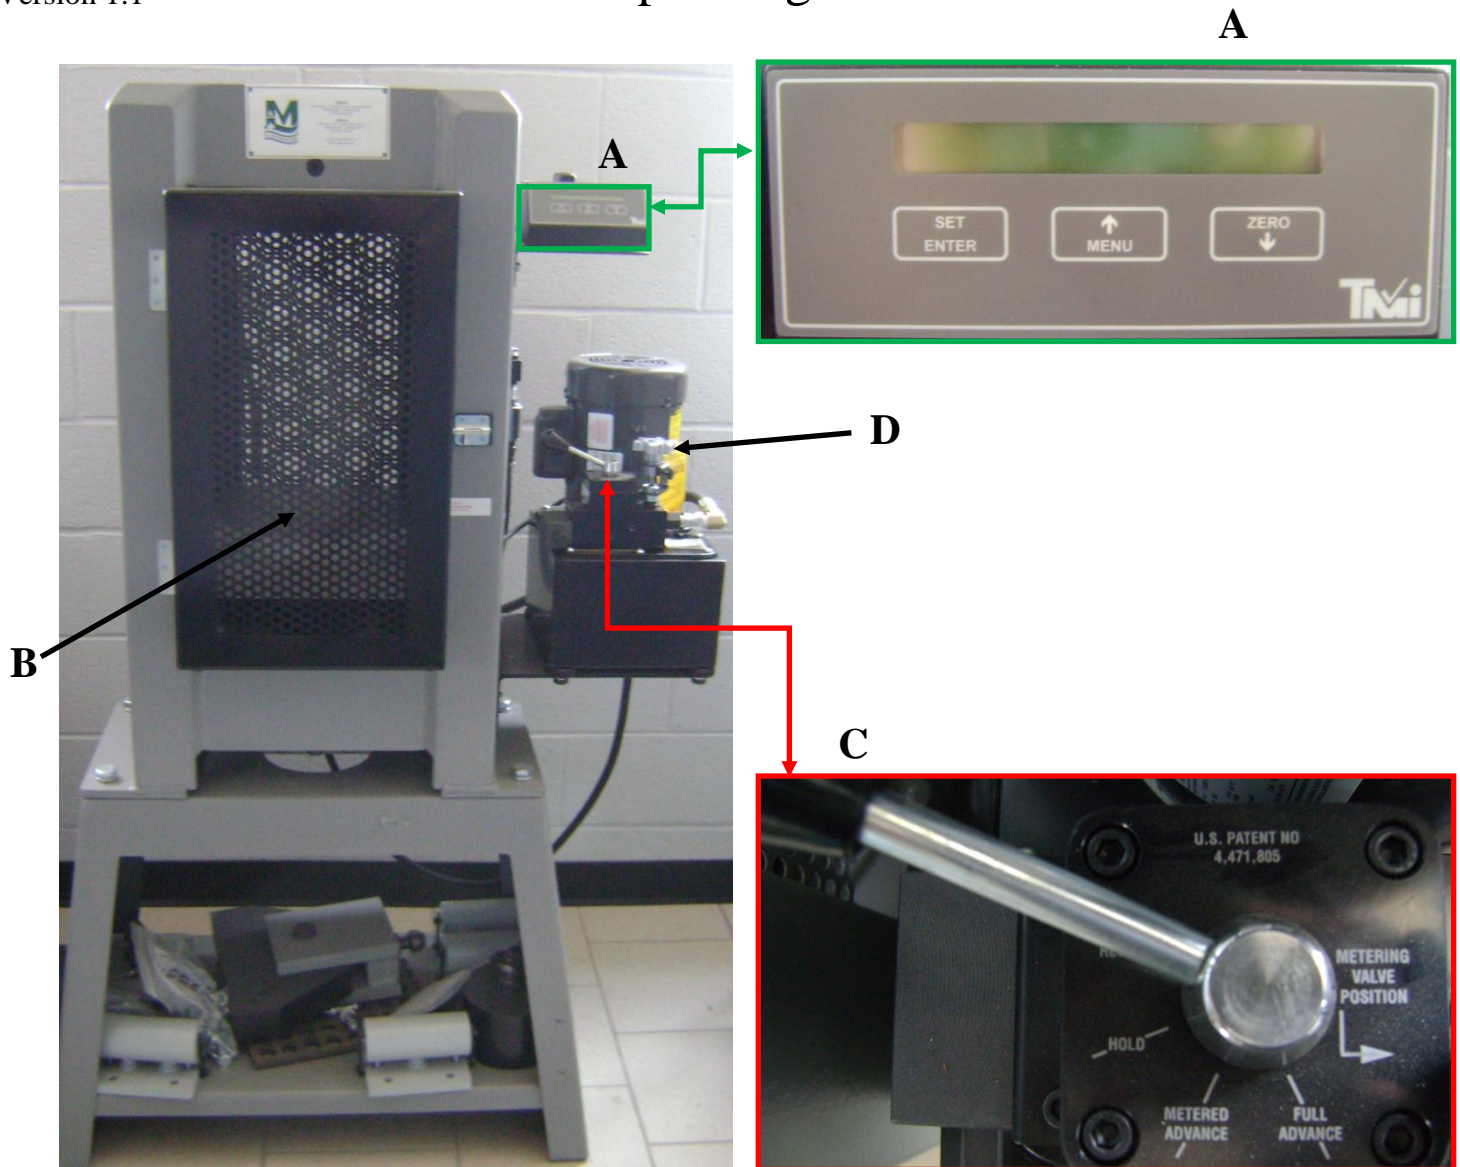

Figure 1. Test Mark Compression Testing Machine
1. Motor switched off, carefully center specimen in testing machine. **Figure 1 (B)**
2. Turn Control Knob clockwise to a snug position. Never over tighten. **Figure 1 (D)**
3. Position Valve Control Handle to a "**METERED ADVANCE**" position. **Figure 1 (C)**
5. If a preload of the specimen is desired, position Valve Control Handle (C) to "**FULL ADVANCE**". Caution is required not to overload or fail the specimen.
6. Watch the gauge/digital, **see Figure 1 (A)**. When the desired preload has been attained, move the Valve Control Handle (C) to the "**METERED POSITION**".
7. To increase the rate of loading, turn Control Knob (D) counter-clockwise. To decrease the rate of loading, turn Control Knob (D) clockwise.
8. To hold pressure at any desired point, position Valve Control Handle (C) to the "**HOLD**" position.
9. To release pressure so that the platen will return after a test has been completed, position Valve Control Handle (C) to the "**RETRACT**" position.
10. For repetitive testing of identical specimens with a gauge machine, Control Knob (D) can be preset with a stop watch, and then locked in position by tightening the thumb screw located beneath the knob. For a 6" diameter specimen, the loading rate should be 565 lbs/sec. to 1413 lbs/sec. or 34,000 lbs/min. to 84,000 lbs/min. For gauge machines a reading of 10,000 lbs. on 10 seconds is a good average and is easily set.